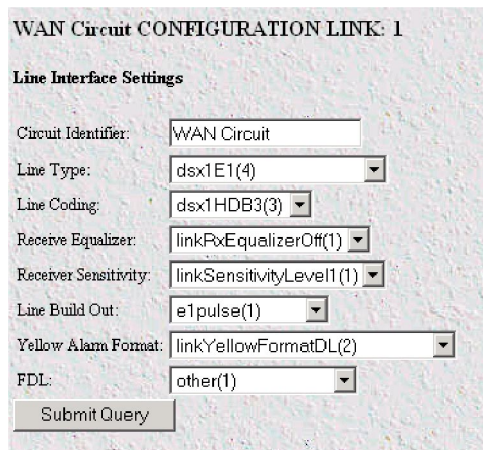

Figure 39. WAN Circuit Configuration page, Line Interface Settings
3. Click the *Configuration...* hyperlink then click the *Modify Configuration...* hyperlink to open the WAN Circuit CONFIGURATION LINK window (see figure 39) and view the *Line Interface Settings*.